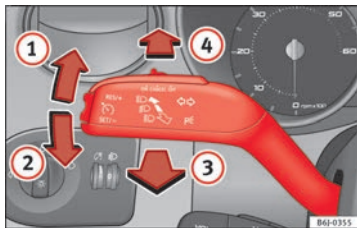

Fig. 66 Turn signal and main beam lever
- Move the lever all the way up ⇒ Fig. 66 ① to indicate **right**, and all the way down ② to indicate **left**.
- Press the lever forward ⇒ Fig. 66 ④ to switch on the main beams.